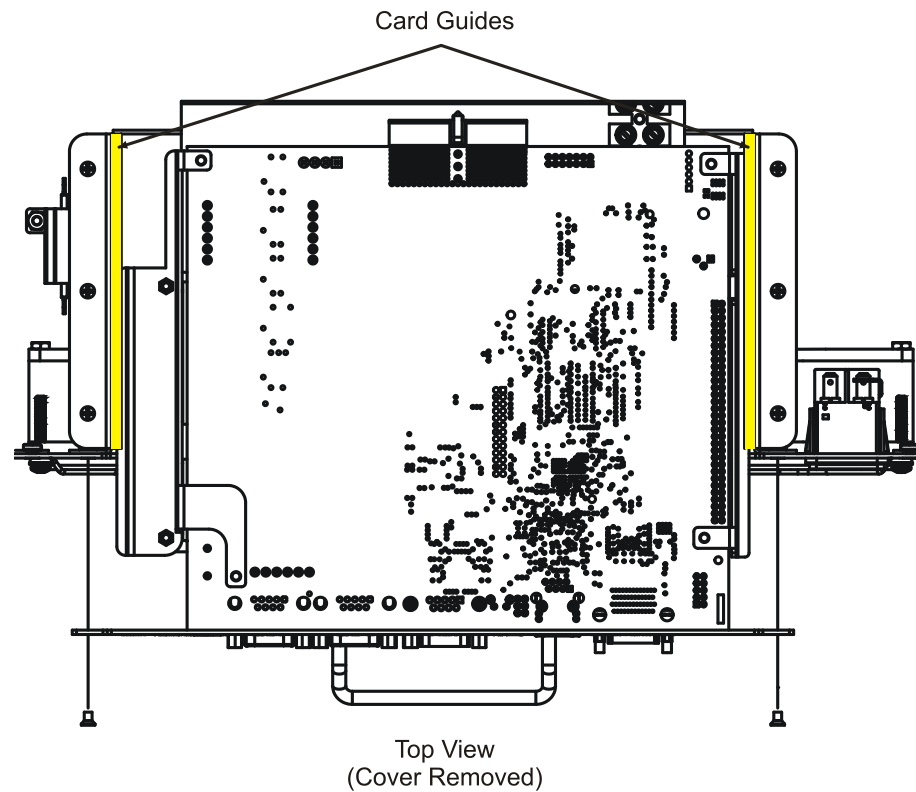

FIGURE 9-2: EX1267/68/69 DMM REMOVAL
- 1) Remove the two screws shown in Figure 9-2 using the #2 Phillips screwdriver. Retain these screws for re-installation.
- 1) Using the guides shown in Figure 9-2, slide the DMM into the mainframe unit until the DMM is supported by the card guides.
- 4) Install the three screws as shown in Figure 9-2 using a #2 Phillips screw driver.